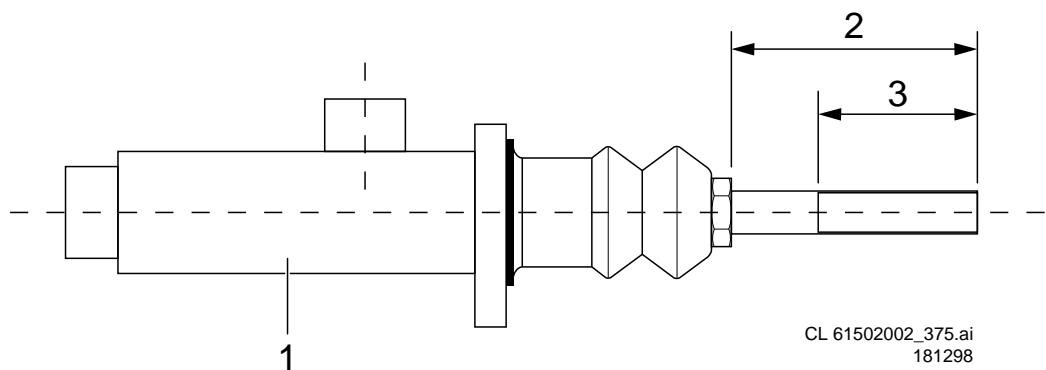

Figure 4 Check length clutch cylinder push rod
1. Fit the new clutch cylinder in the reverse order to removal paying attention to the following points (see Figure 4):